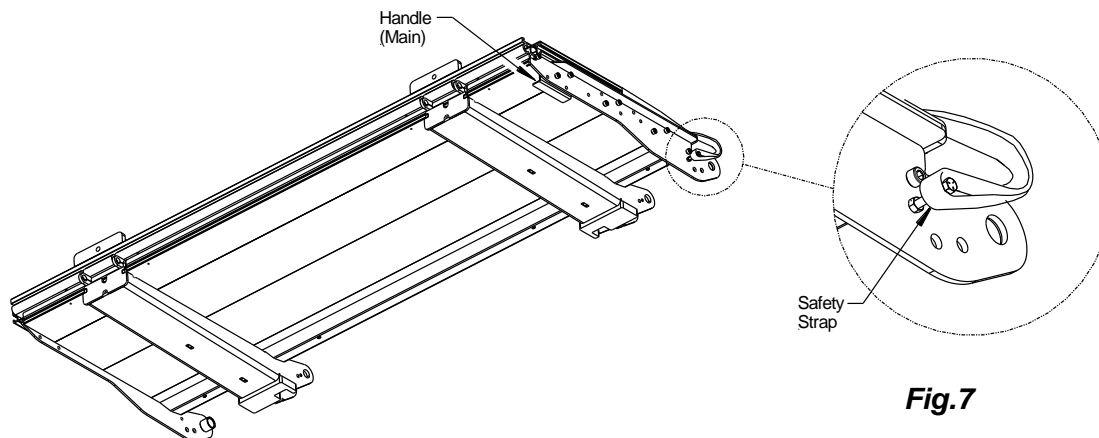

**Fig.5**
2. Use the **Down** function of the toggle switch to lower the gate from the stored position, **Fig.5**, until the platform rest on the wheel, **Fig.6**.